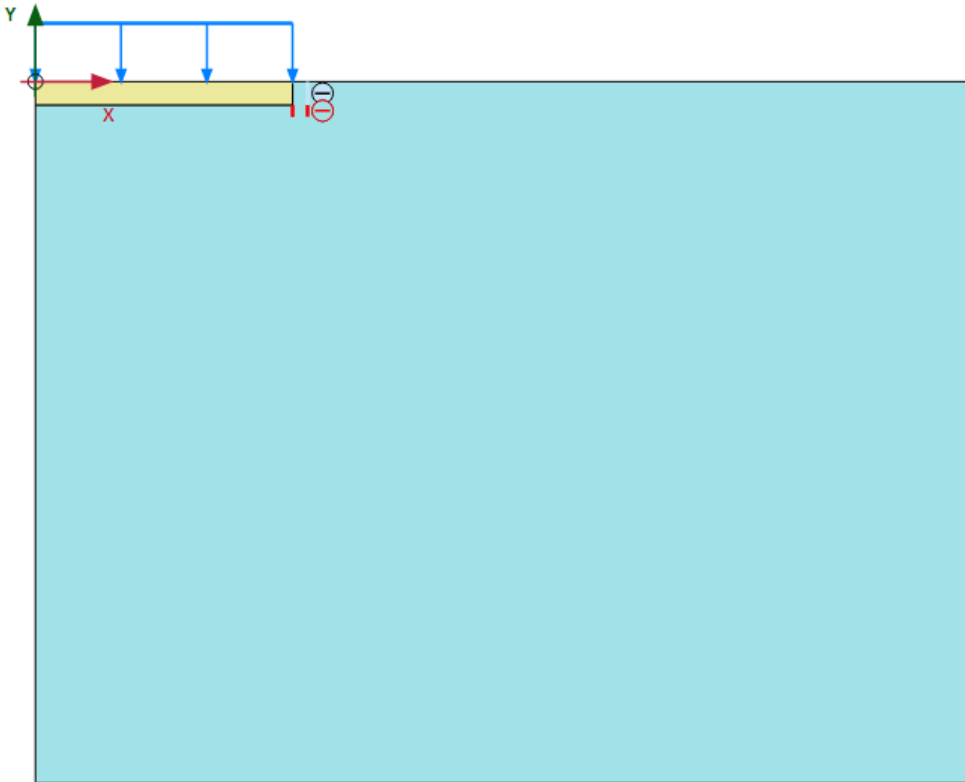

Figure 8.13 Geometry of the model
- Click *Create interface* to create the upper part from (11.0, -1.0) to (11.0, 0.0), Figure 8.13.
- Click *Create interface* to create the lower part (between foundation and soil) from (11.0, -1.5) to (11.0, -1.0), Figure 8.13.